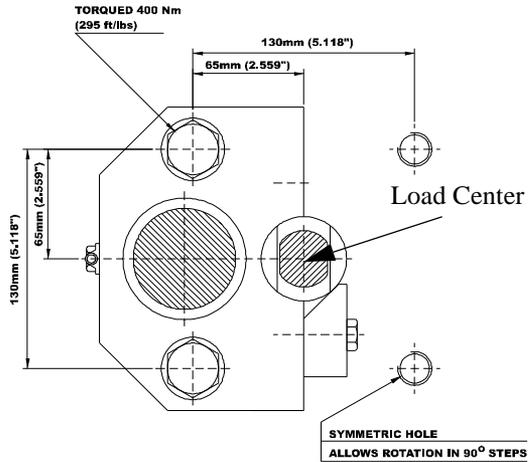

FIG. 11: BOLTED ALTERNATIVE
- Install the hex nuts onto the j-bolts (studs) that fasten the bottom plate to the foundation plate. Tighten so they are snug. **DO NOT TORQUE.** (See Fig. 11)
- Step 11. **If you bolt** the top plate to the load carrier plate, tighten the bolts that fasten the top plate to the load carrier plate; then tighten the bolts that fasten the bottom plate to the foundation plate. See Fig. 11 for recommended torque.